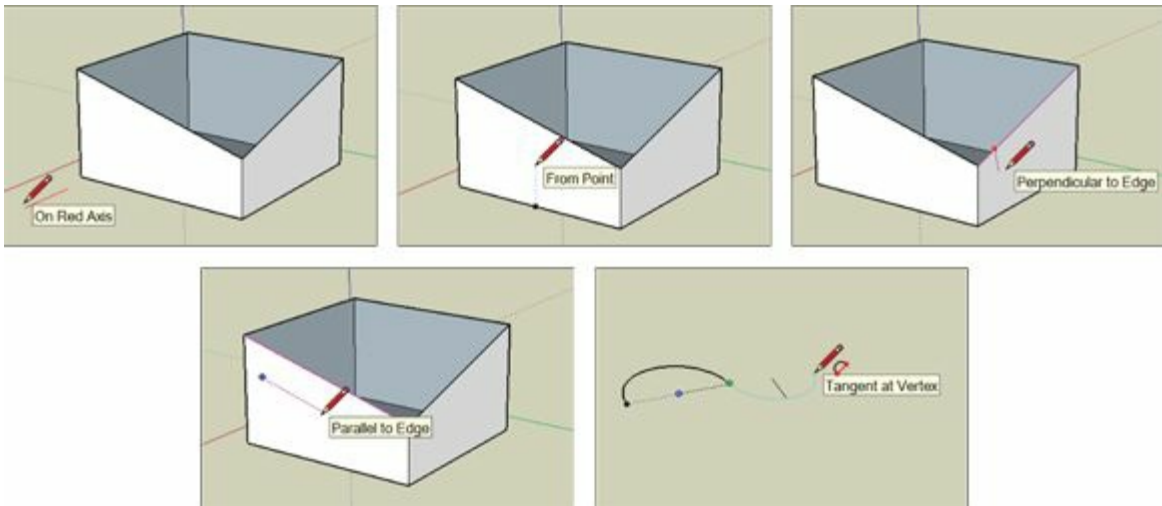

FIGURE 3-13: SketchUp’s linear inferences help you align new geometry with existing geometry.
As you've probably already noticed, color plays a big part in SketchUp's *user interface*, or the way it looks. Maybe the best example of this is in the software's *linear* inferences — the “helper lines” that show up to help you work more precisely. Figure 3-13 illustrates the important linear inferences, and here's a description of what they do:
- » **On Axis:** When an edge you're drawing is parallel to one of the colored drawing axes, the edge turns the color of that axis. In Figure 3-13, you see the On Red Axis inference.